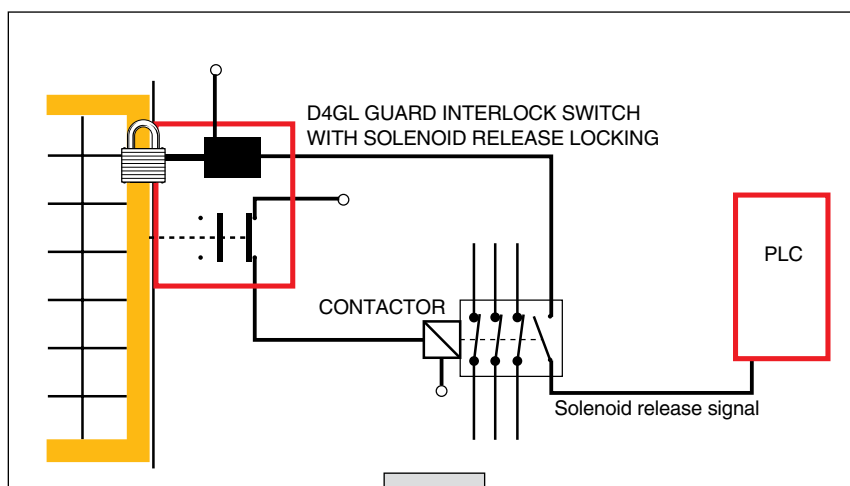

Fig. 2.15
3. Programmable System Controlled Guard Locking Devices (see Figure 2.15)